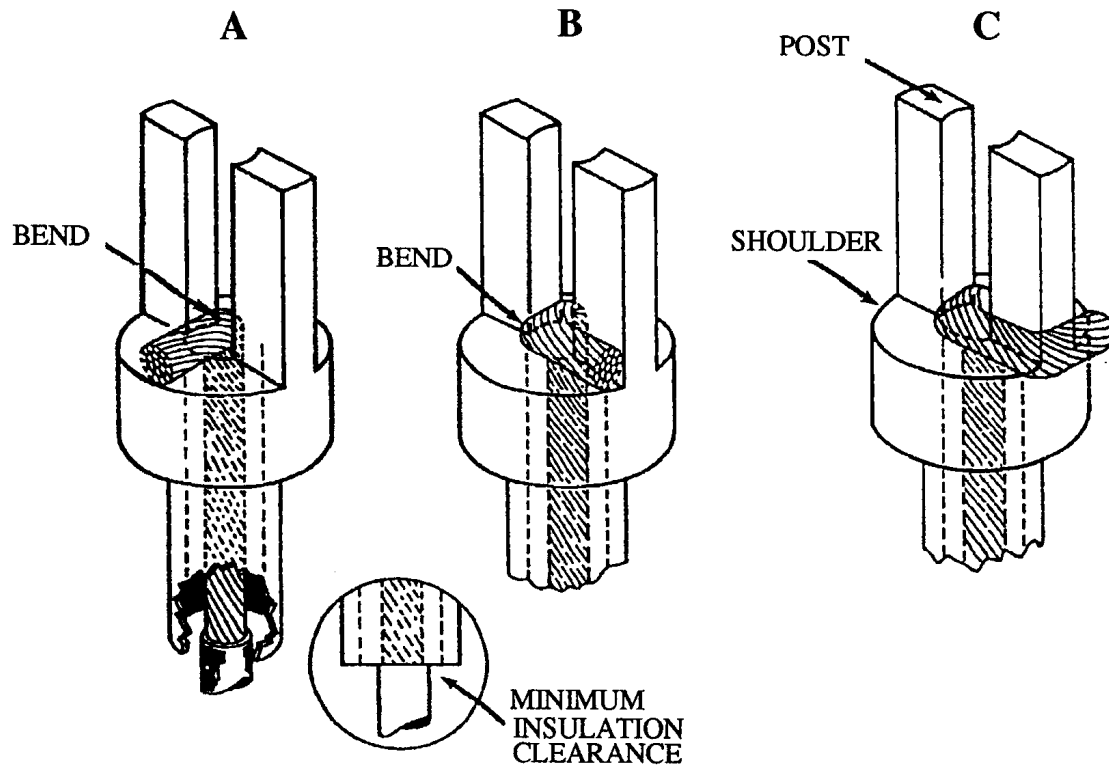
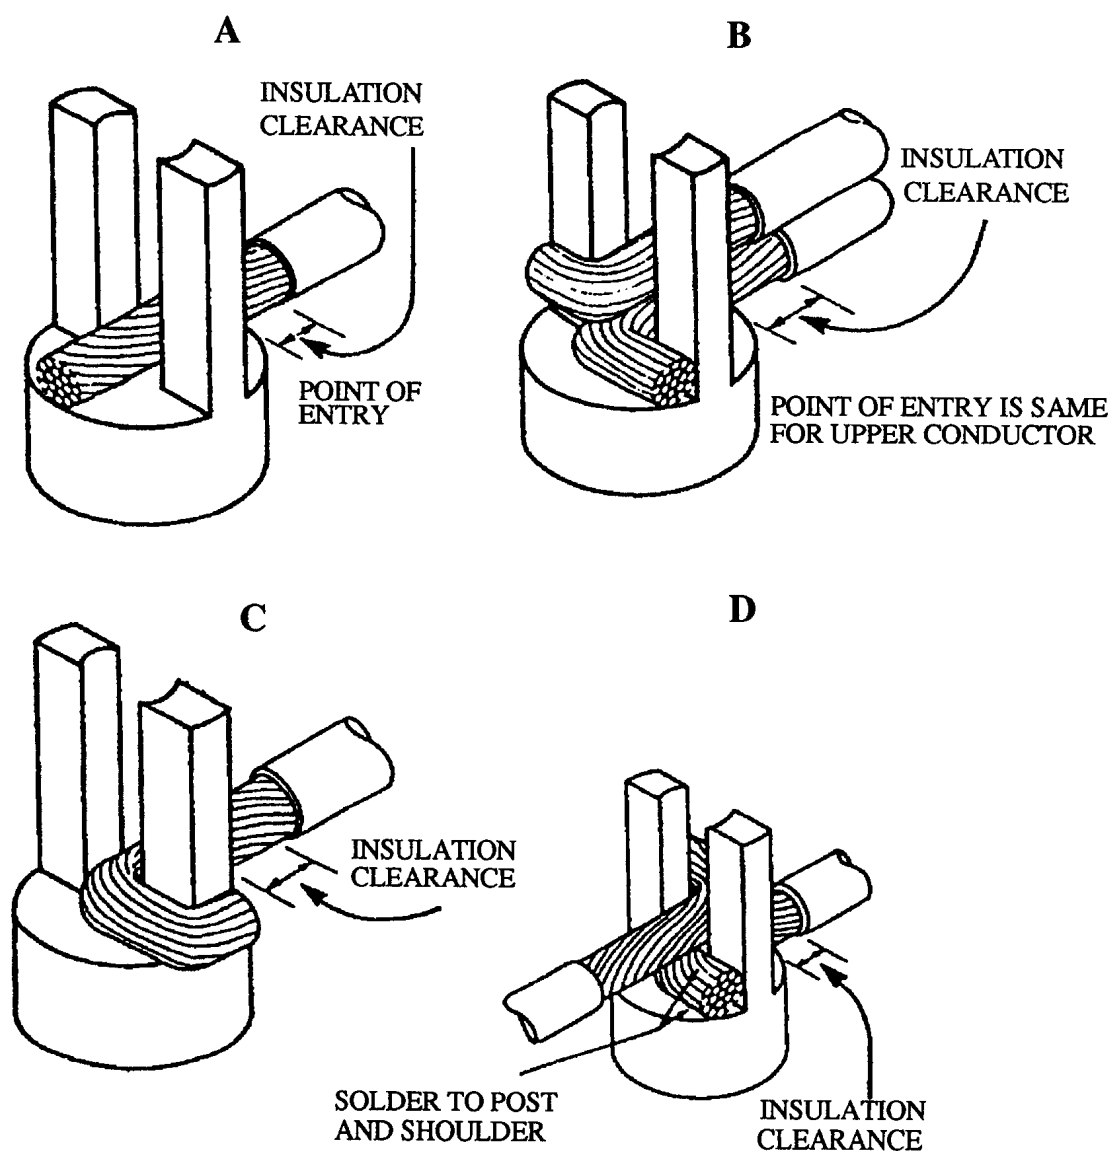

Figure 9-5. Bottom Route Connections to Bifurcated Terminals
Figure 9-6. Side Route Connections to Bifurcated Terminals
1. **Bottom Route.** Bottom route shall be connected as shown in Figure 9-5. Conductors shall not extend beyond the diameter of the base of the terminal except where physical clearance is adequate for the intended environment or electrical characteristics. When more than one conductor is to be attached, it shall be inserted at the same time but shall be wrapped separately around alternate posts.
2. **Side Route.** Side route shall be connected as follows (Figure 9-6):
3. **Side and Bottom Route.** The bottom route shall be installed first as shown in Figure 9-5, then the side route as shown in Figure 9-6, methods B, C, or D.